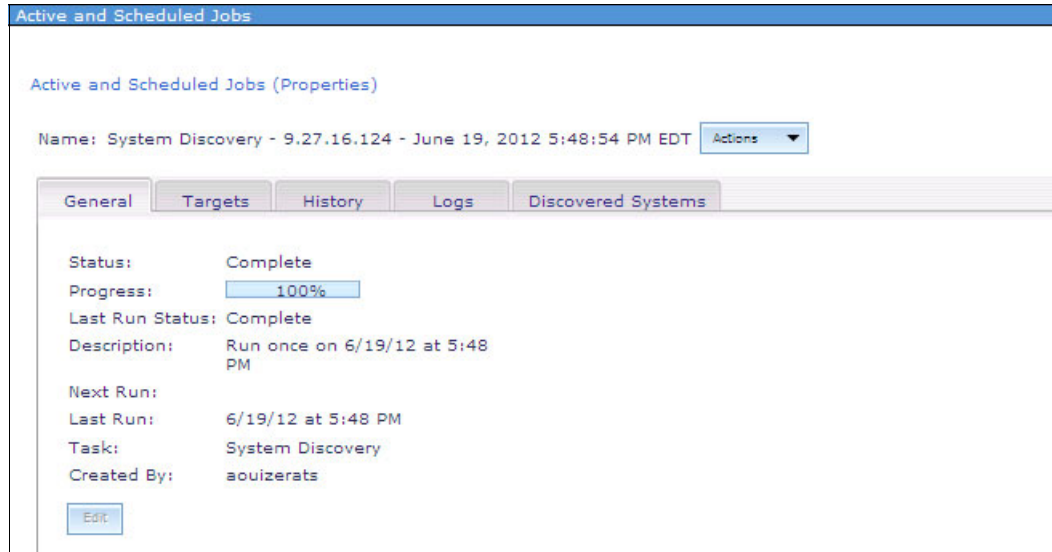

Figure 9-25 KVM hosts with Common Agent discovery complete
- Click **OK** to run the job now and click **Display Properties** to check the job progress status as shown in Figure 9-25.